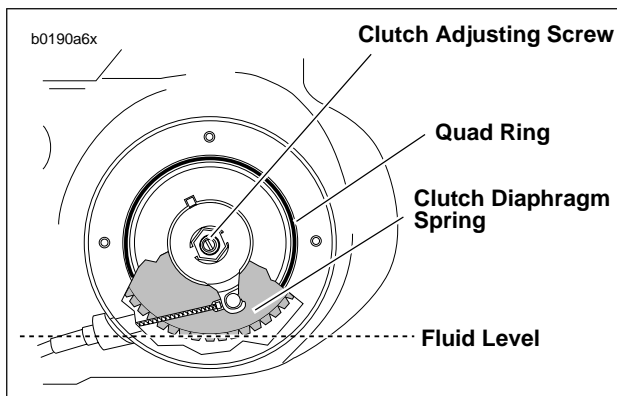

Figure 1-18. Fluid Level
6. See Figure 1-18. Add SPORT-TRANS FLUID (Part No. 98854-96 quart size; Part No. 98855-96 gallon size) as required until fluid level (4) is even with bottom of clutch diaphragm spring (3).